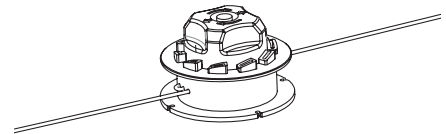

Figure 6
2. Insert the end of the cutting line into the retaining lug of the spool on the other side (see Figure 6).